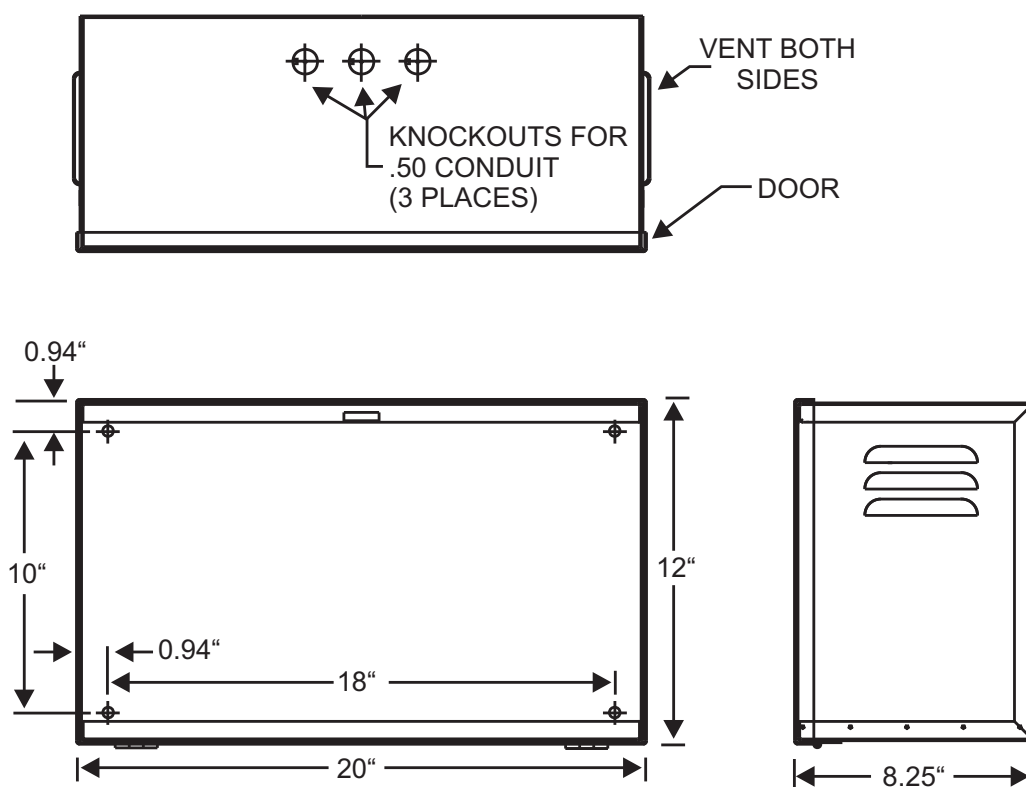

Figure 2-47. Mounting Dimensions for Large Capacity Battery Box
5. Mark and pre-drill holes for four mounting bolts using the dimensions shown in Figure 2-47. Be certain to allow room for ventilation on both sides of the cabinet.